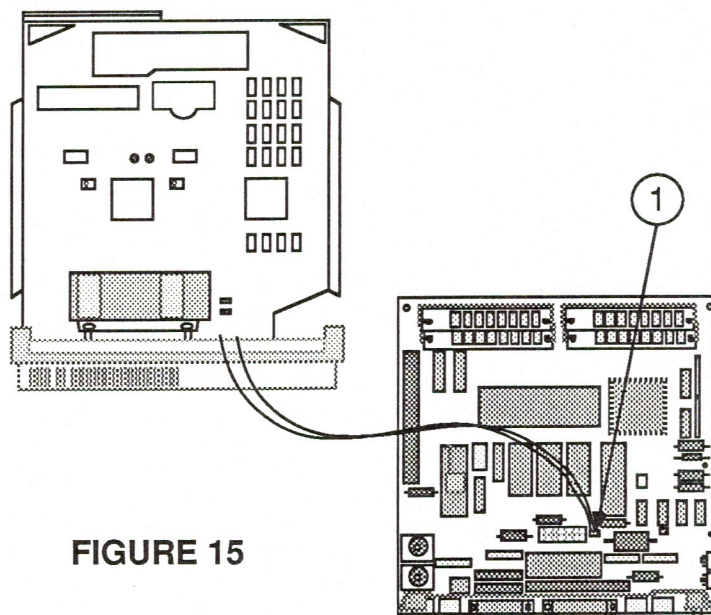

FIGURE 15
8. Set the main logic board down on the grounded workbench pad and disconnect the speaker cable from the board (Figure 15, #1).
1. Reconnect the speaker cable (Figure 15, #1) to the main logic board.